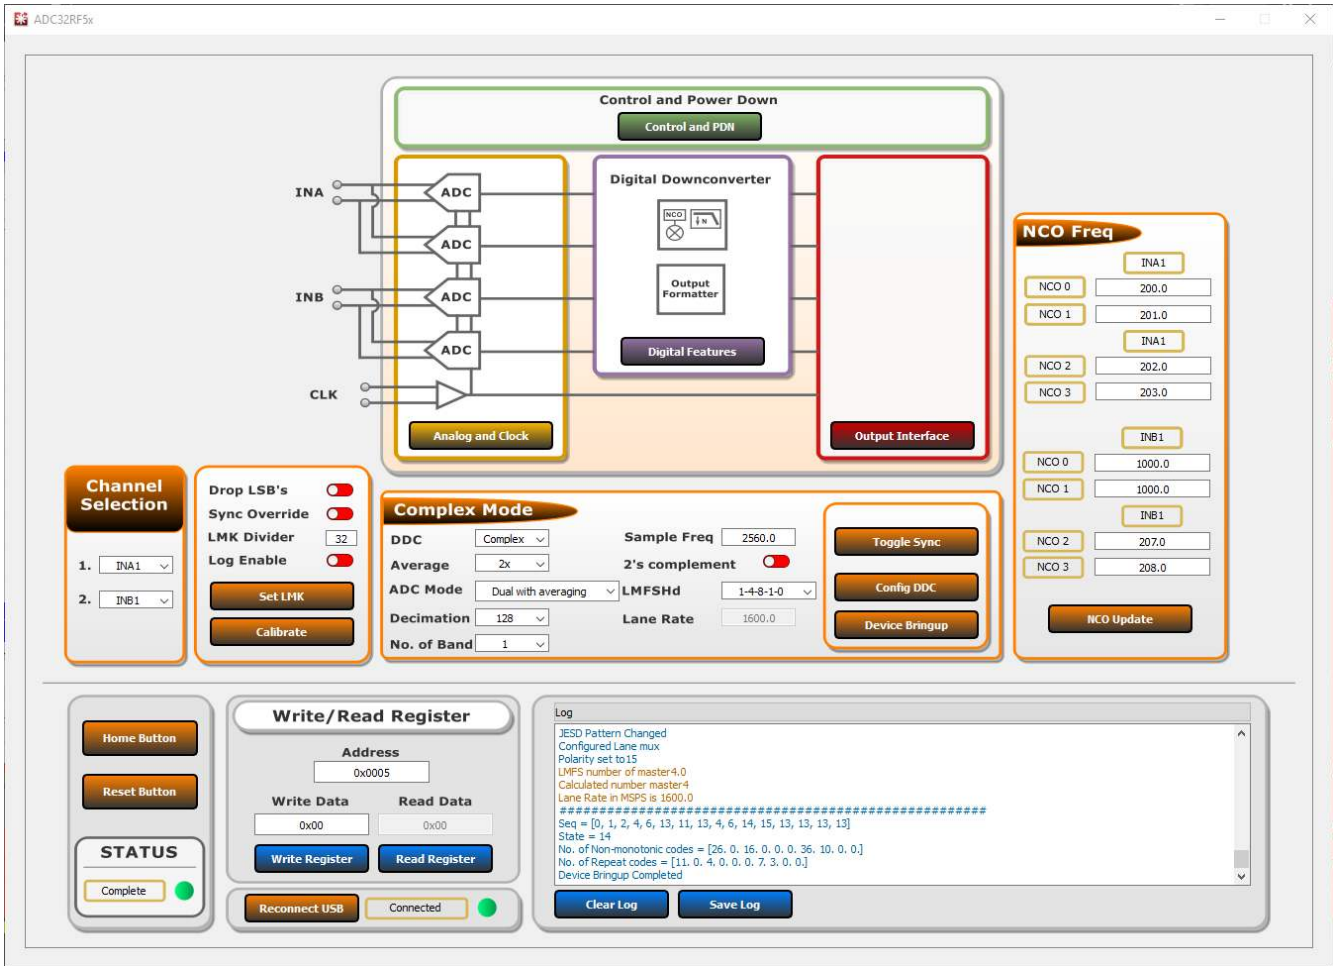

Figure 4-5. ADC32RF5xEVM GUI, 128x complex decimation, 1GHz NCO
8. Once these settings are verified and match Figure 4-5, press the **Device Bringup** button.